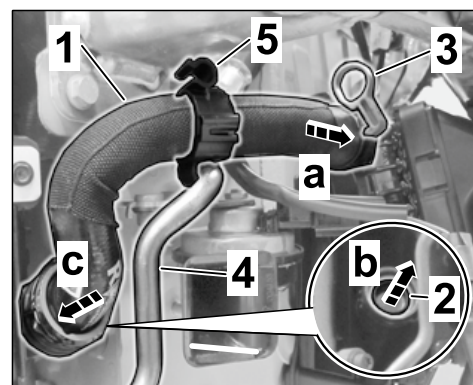

Figure 16
3.5.1 Fit right coolant hose on middle radiator ⇒ *Figure 16 -arrow a-*.
3.5.2 Remove dummy plug ⇒ *Figure 16-2-* at the bottom of the side radiator at the right ⇒ *Figure 16 -arrow b-* and engage the right coolant hose in the coupling on the side radiator ⇒ *Figure 16 -arrow c-*.